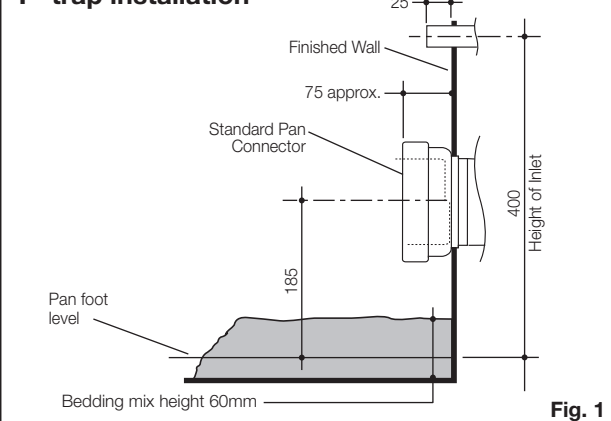

Fig. 1
It is essential for installation of the pan that the connector is accurately fixed into position, as detailed in **Fig. 1**.
- 4- Prepare bedding sand cement mixture 3:1 to depth of 60mm as detailed in **Fig. 1**.